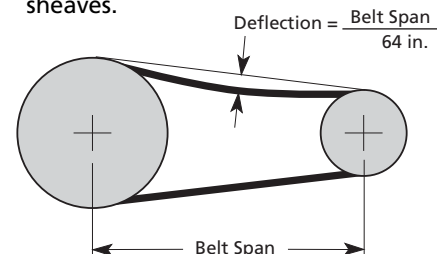

Figure 22 - Belt Tension
2. Check the tension by measuring the deflection in the belt as shown (See Figure 22).